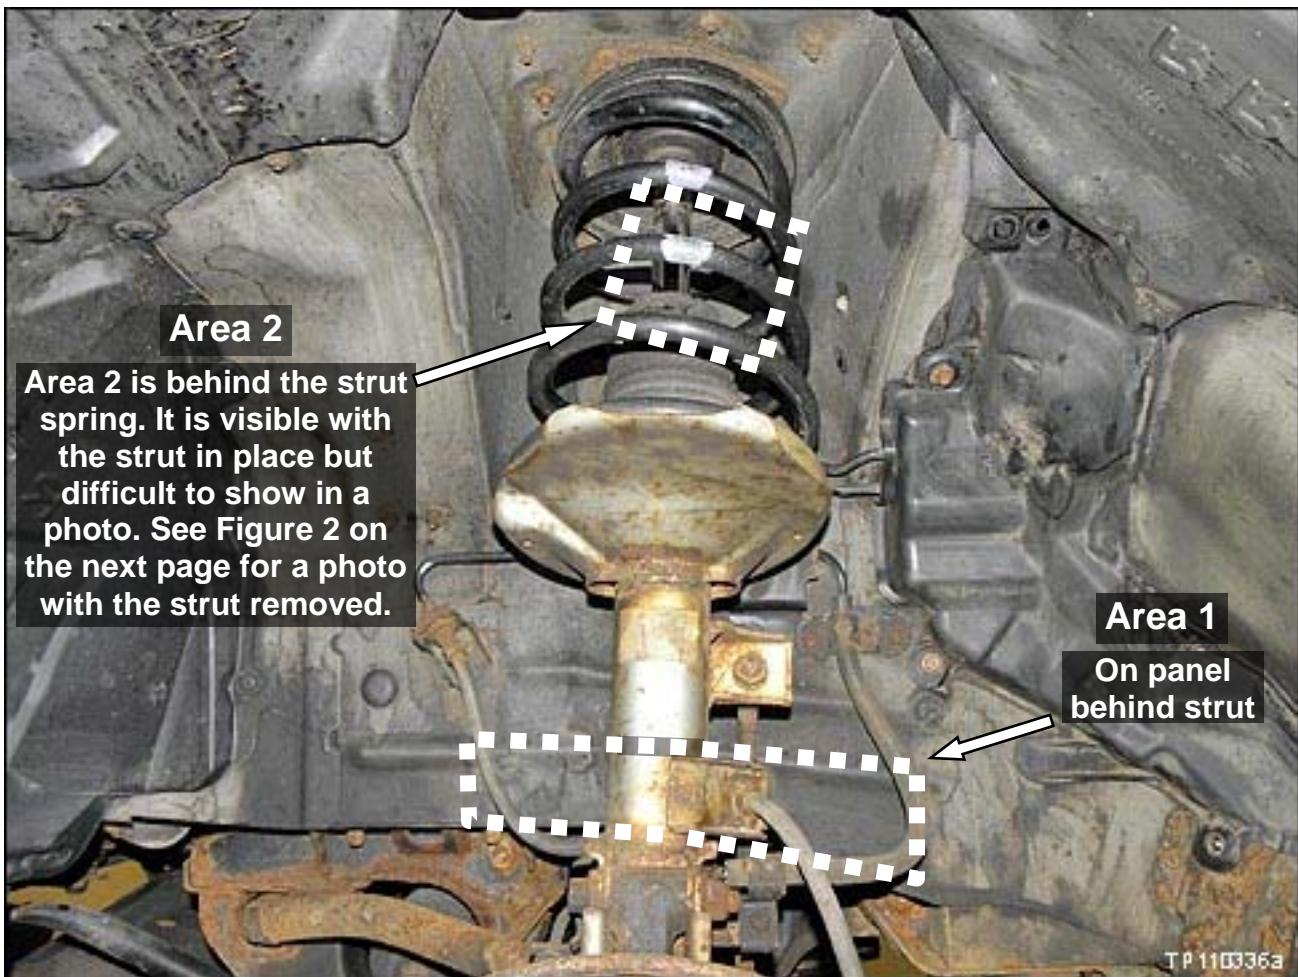

Figure 1
3. Inspect for corrosion ON BOTH SIDES in the strut housing **Area 1** and wheel house **Area 2** (see Figures 1 through 6).